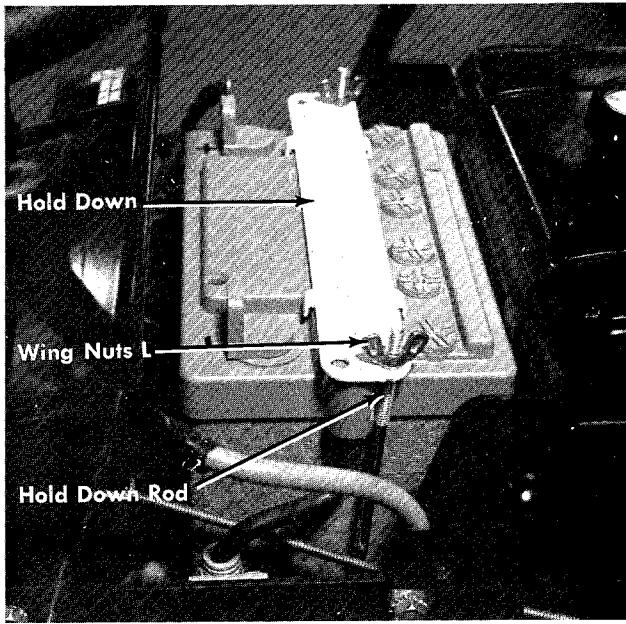

FIGURE 5.
Step 1. Place the battery in the battery case with the terminals to the rear. (See figure 5.)
Step 3. Secure the hold down with the wing nuts "L". Tighten hand tight. (See figure 5.)